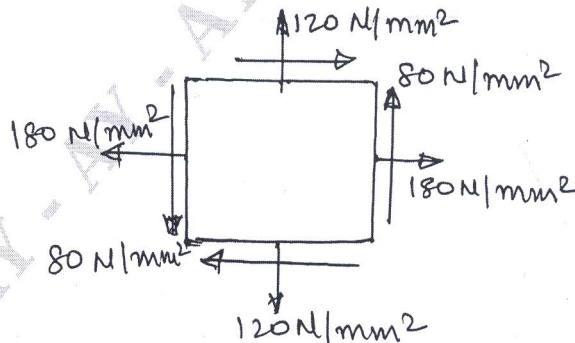

Fig.Q3(c)
- c. The state of stress at a point in a strained material is shown in Fig.Q3(c). Determine: